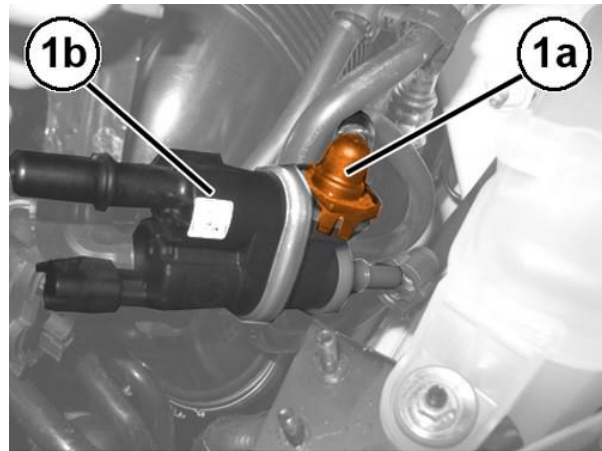

Figure 47 – Solenoid Valve
32. Work on the clips to disconnect the fuel vapor supply pipe to the intake manifold (1a) and remove the solenoid valve for consent of the fuel vapor passage to the intake (1b) (Figure 47).